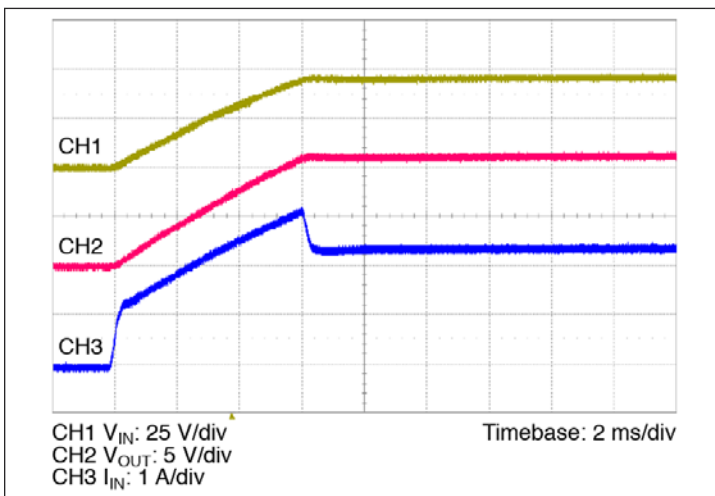

Figure 13 — Start up from application of V_{IN} ; V_C pre-applied $C_{OUT} = 500 \mu$ F
- Normal Operation (VC applied prior to V_{IN}): In this case the controller is active prior to ramping the input. When the input voltage is applied, the VTM output voltage will track the input (See Figure 13). The inrush current is determined by the input voltage rate of rise and output capacitance. If the VC voltage is removed prior to the input reaching 26 V, the VTM module may shut down.